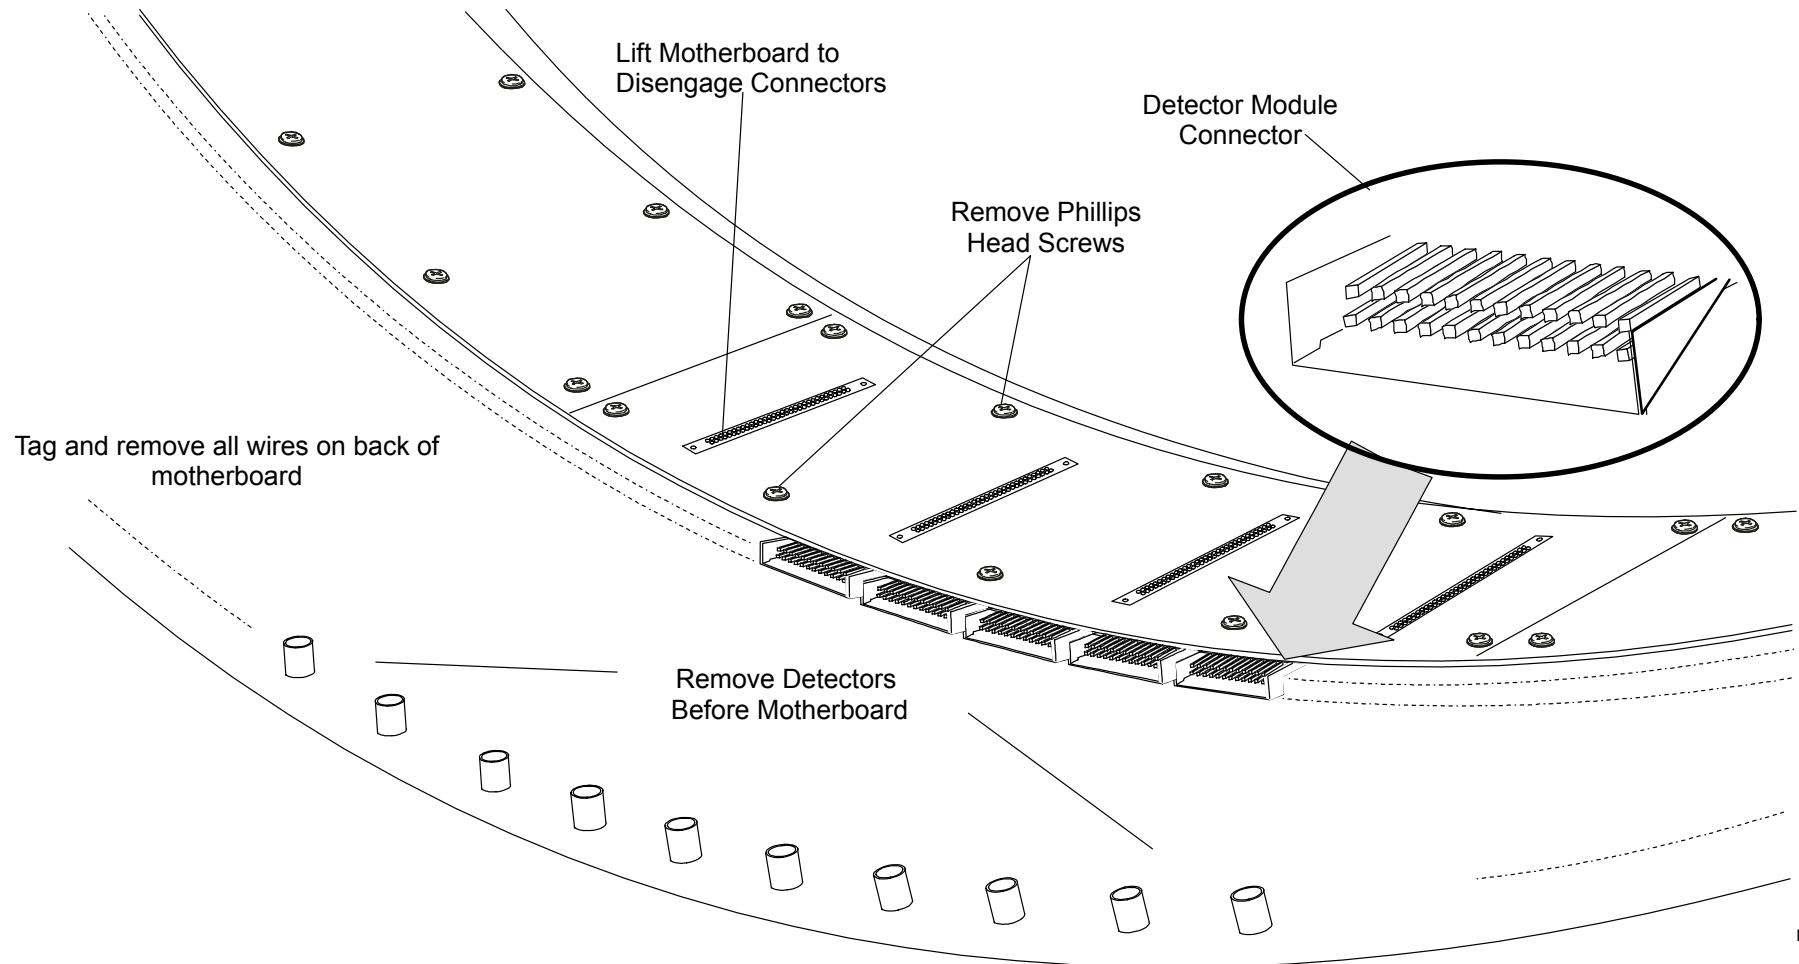

FIGURE 316 Motherboard Removal
12. Remove the ten Phillips Screws from the Motherboard. Carefully bend mother board up slightly on each end to help disengage the four connectors located underneath. These connectors plug into the gantry ring. Refer to Figure 316.